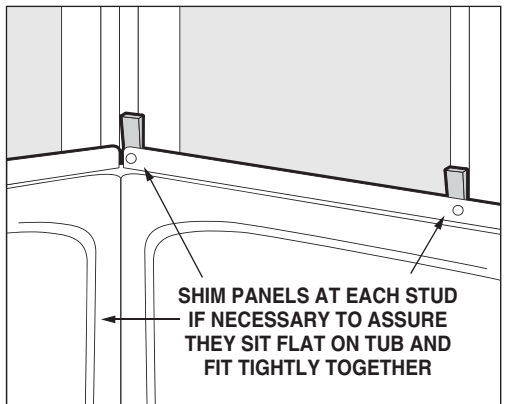

FIGURE 4. You can shim against the stud.
- If the studs and back panel do not contact correctly you will need to shim for support. **(Fig. 4)**
- If necessary, shim between wall panels and studs to provide a tight fit between the back and side panels. **(Fig. 4)**